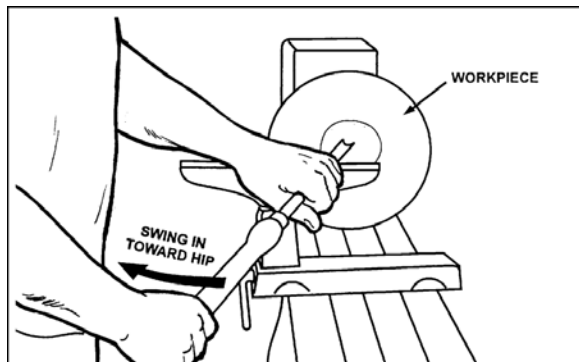

Figure 39
- Place 1/2" bowl gouge on tool support at center of the workpiece with the flute facing top of bowl. The tool handle should be level and pointed toward the four o'clock position, as shown in Figure 39.